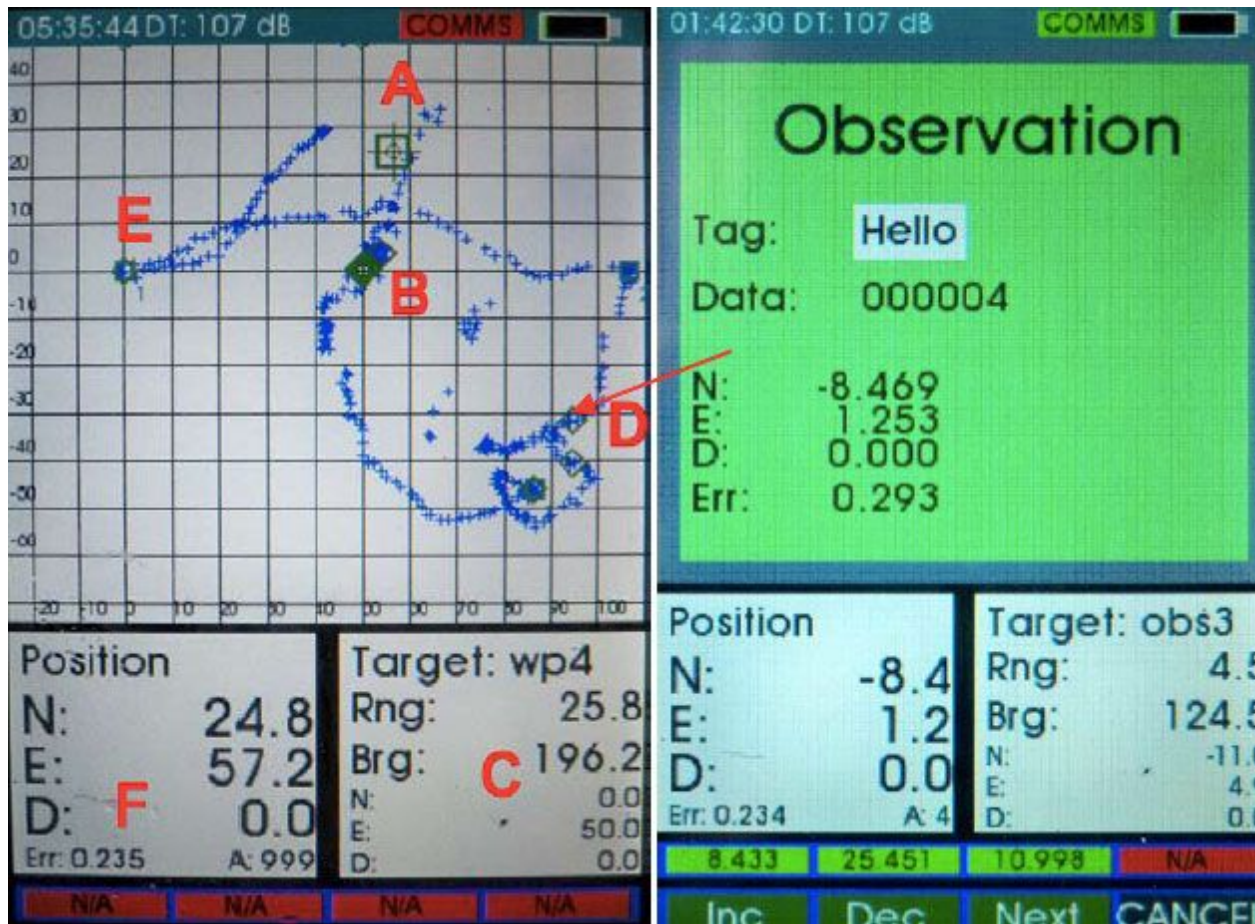

Figure 2: Electronic Position Recording with the DS-3 diver terminal
The DS-3 diver terminal supports such electronic observation recording. Figure 2 illustrates the method. On the left, we see the diver navigation screen. The diver here is currently at (A), with the position coordinates indicated by (F). He has selected waypoint wp4 at location (B) as his next target. The range and bearing to wp4 is stated in (C). But, also seen are three small green diamond symbols near (D). These are observation recordings taken by the diver while passing those locations (blue diver track).
The diver initiates an observation by hitting the 'Observe' key (button #5, it is the single button below the row of four buttons). At that moment, the observation screen as seen in figure 2 on the right pops up. The current position, depth and estimated position error of the location is automatically recorded. The diver can now add an observation classifier from a programmable list. In this demo it is shown as 'Hello', but would typically be the type of wreckage, sea floor composition or animal encountered,